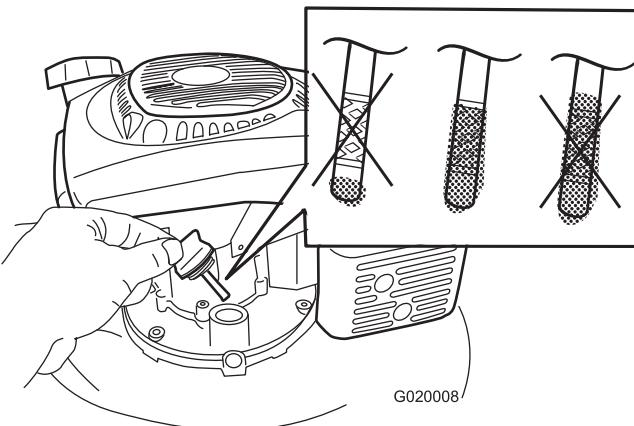

Figure 5
1. Remove the dipstick (Figure 5).
2. Slowly pour oil into the oil-fill hole until the oil level reaches the Full line on the dipstick (Figure 5). **Do not overfill.** (Max. fill: 0.59 l (20 oz.), type: 10W-30 or SAE 30 detergent oil with an API service classification of SJ or higher.)
Note: Each time you check the oil level, remove the dipstick and wipe it clean, insert it into the oil filler neck (but **do not** screw it in), then remove it again and check the level (Figure 5).